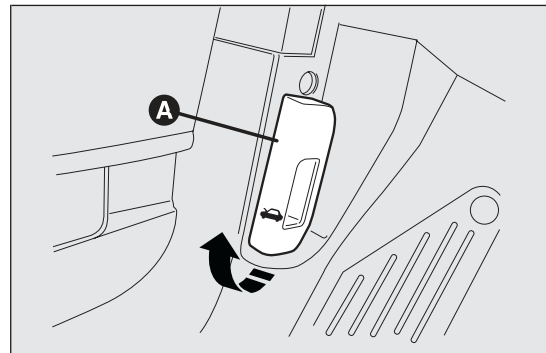

fig. 98
- ☐ pull lever A fig. 98 in the direction indicated by the arrow;